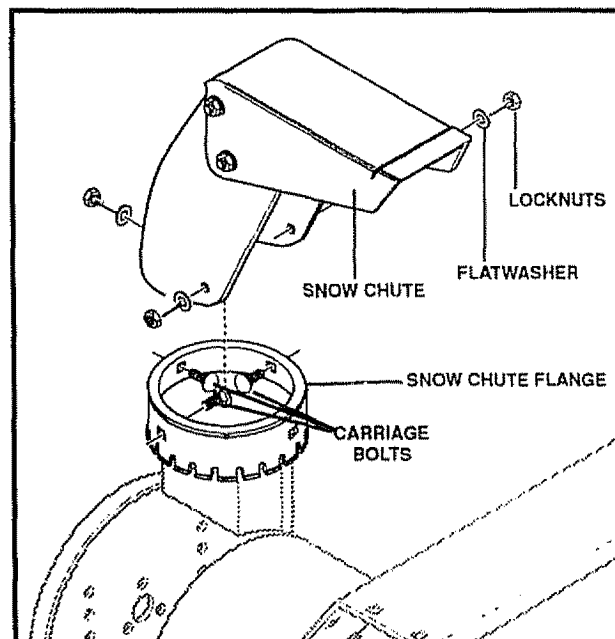

FIG. 7A
- Replace carriage bolts (from inside of chute) as shown in FIG. 7A., flat washers, nuts and tighten.